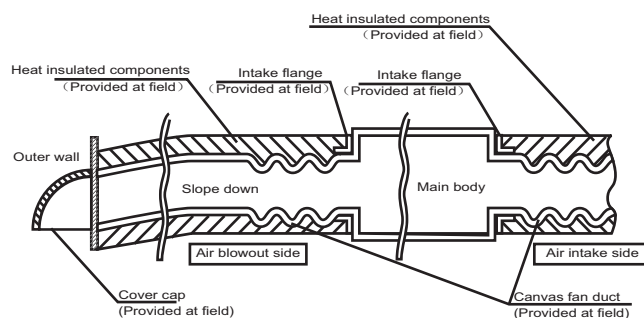

Fig.7-2
- Connect the fan duct as the following. (Refer to Fig.7-2) (Air intake side)